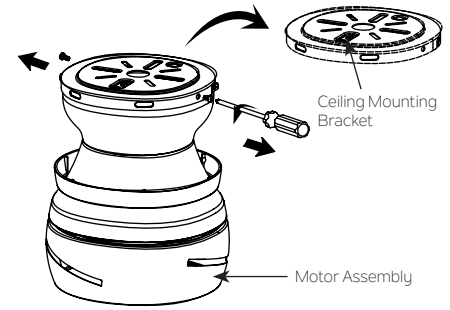

Fig. 4
**Step 1.** Loosen two (one of each across) of the four screws from the ceiling mounting bracket, and remove the other two and keep for later use, then release the ceiling mounting bracket from the motor assembly. (Fig. 4)